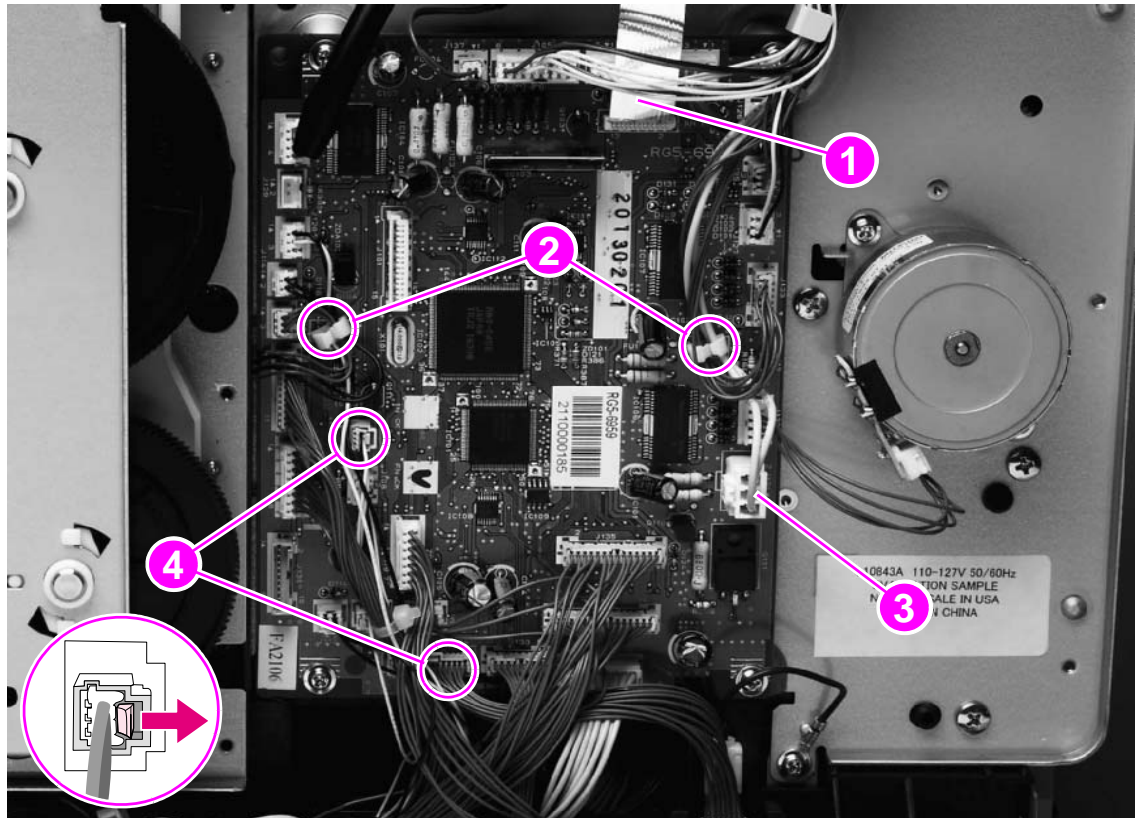

Figure 51.
- 5 Unplug two cable connectors (callout 4) by releasing a clip on each connector (see the detail in the lower-left corner of figure 51).